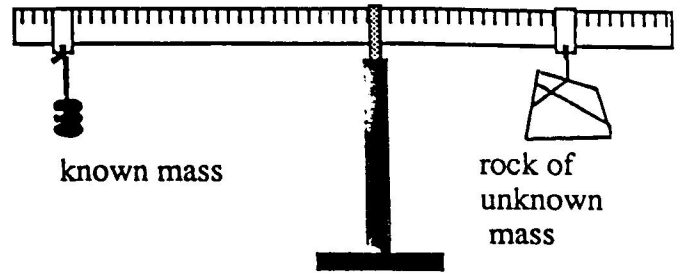

Figure 2
5. Record the combined mass of the hanger, weight pan and 100g mass in kilograms. This is the known mass referred to in figure 2. Calculate and record the weight of this combination.